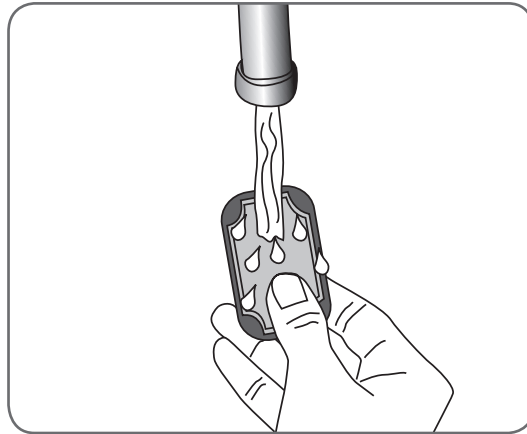

Figure 8-4: Wetting the cloth electrodes.
3. Wet the cloth electrodes until they are saturated. See Figure 8-4.